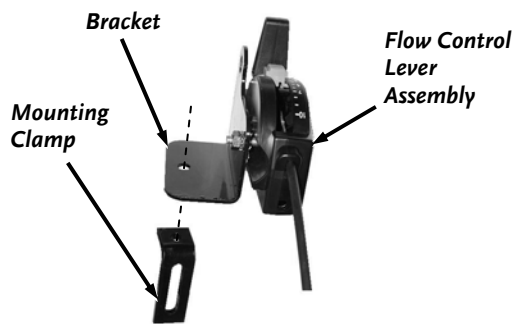

Figure 15
2. Using a 5/16" x 1-3/4" Carriage Bolt and Wing Knob from the Hardware Package, mount the Flow Control Lever Assembly to your Tow Vehicle (**Figure 15**).